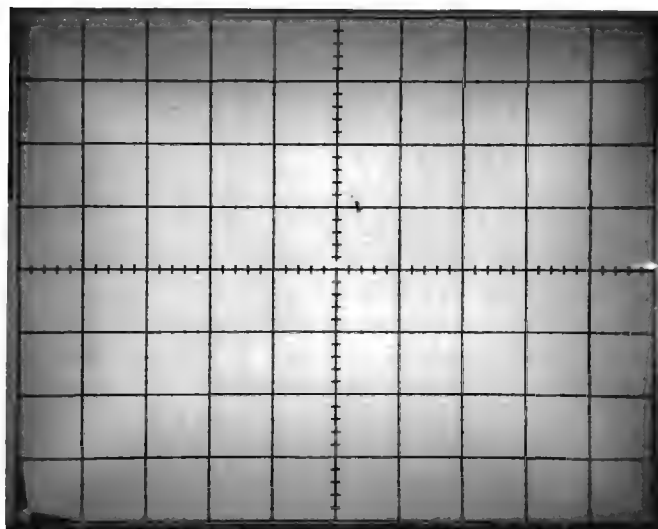

Fig. 5-2. Illustration of step 15i.
i. Press the BEAM FINDER and position the 11th (furthest left) spot (see Fig. 5-2) to graticule center and note the position of the 10th and 11th spots (reposition vertically as necessary).